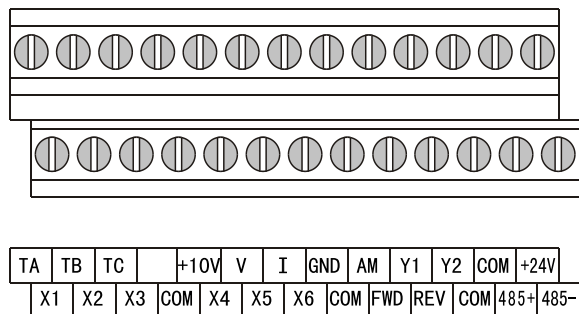

Fig. 3-23 Control Circuit Terminals (1)
1、Control circuit terminals shown in Figure 3-23 and 3-24